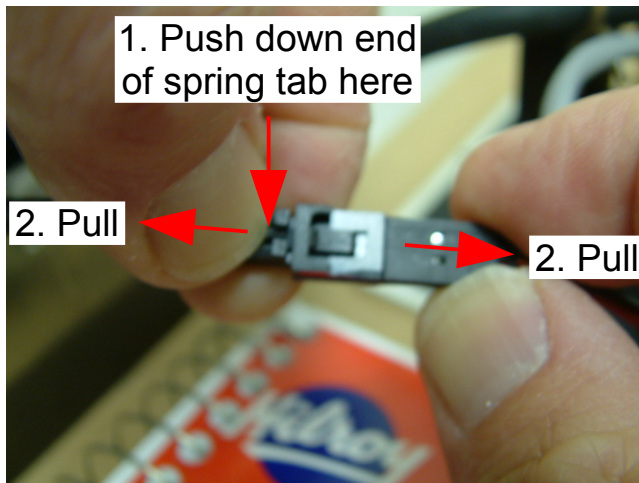

Figure 7 - Disconnecting the stirrer motor connection
12. On the connection between the cable from the stirrer motor and the cable from the EasyLife, grasp the connector connected to the stirrer in one hand and push down on the spring tab on the connector connected to the EasyLife with the other hand and pull the two connectors apart – you will have to wiggle the two connectors side-to-side while pulling them apart (see figure 7).